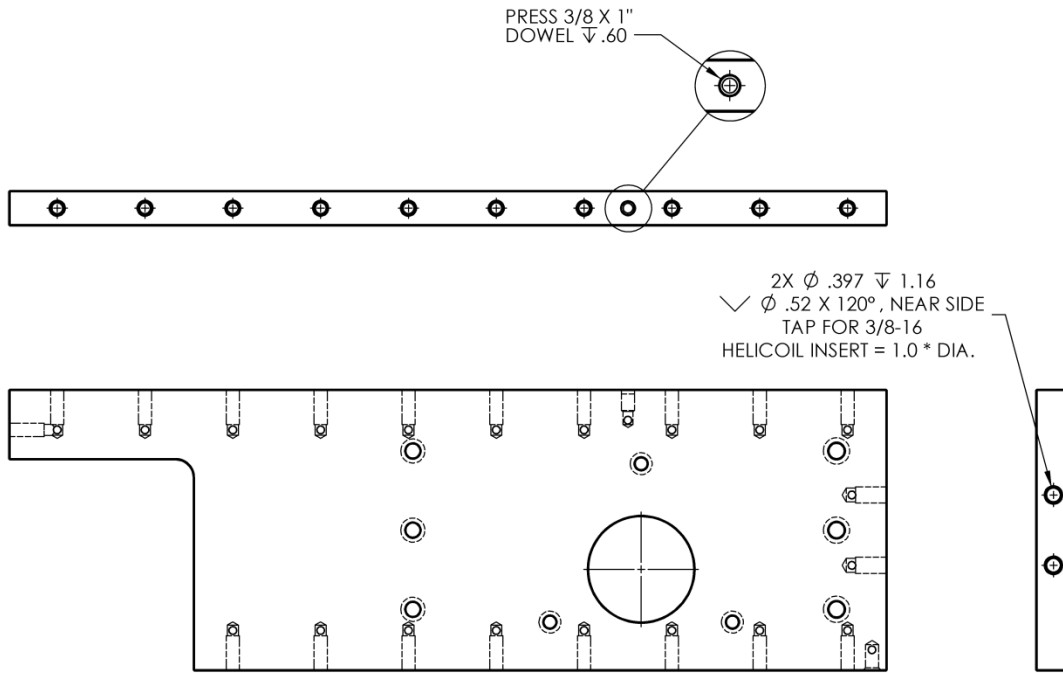

Figure 18
1. Apply helicoils and dowel pins as shown Figure 18.